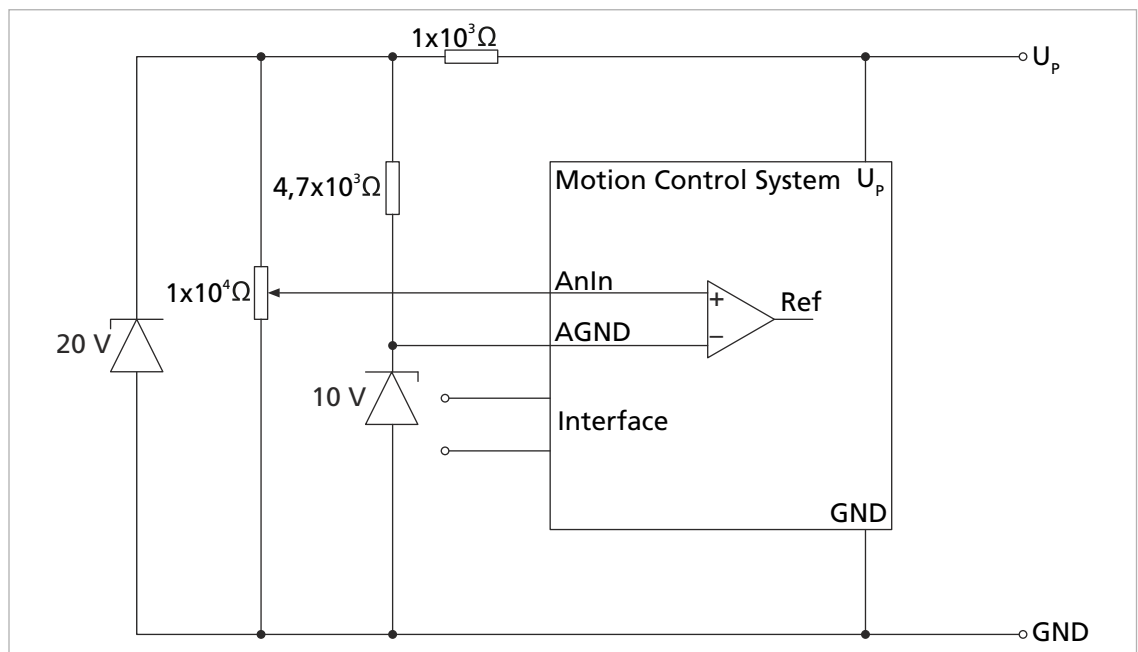

Fig. 10: Bipolar analog set-point specification via potentiometer
b) For a voltage signal +/- 10 V, the potential at AGND must be raised to such an extent that there is no negative potential at AnIn1 in relation to GND. Example: $0\text{ V} < \text{AnIn1} < 20$ (see Fig. 10).